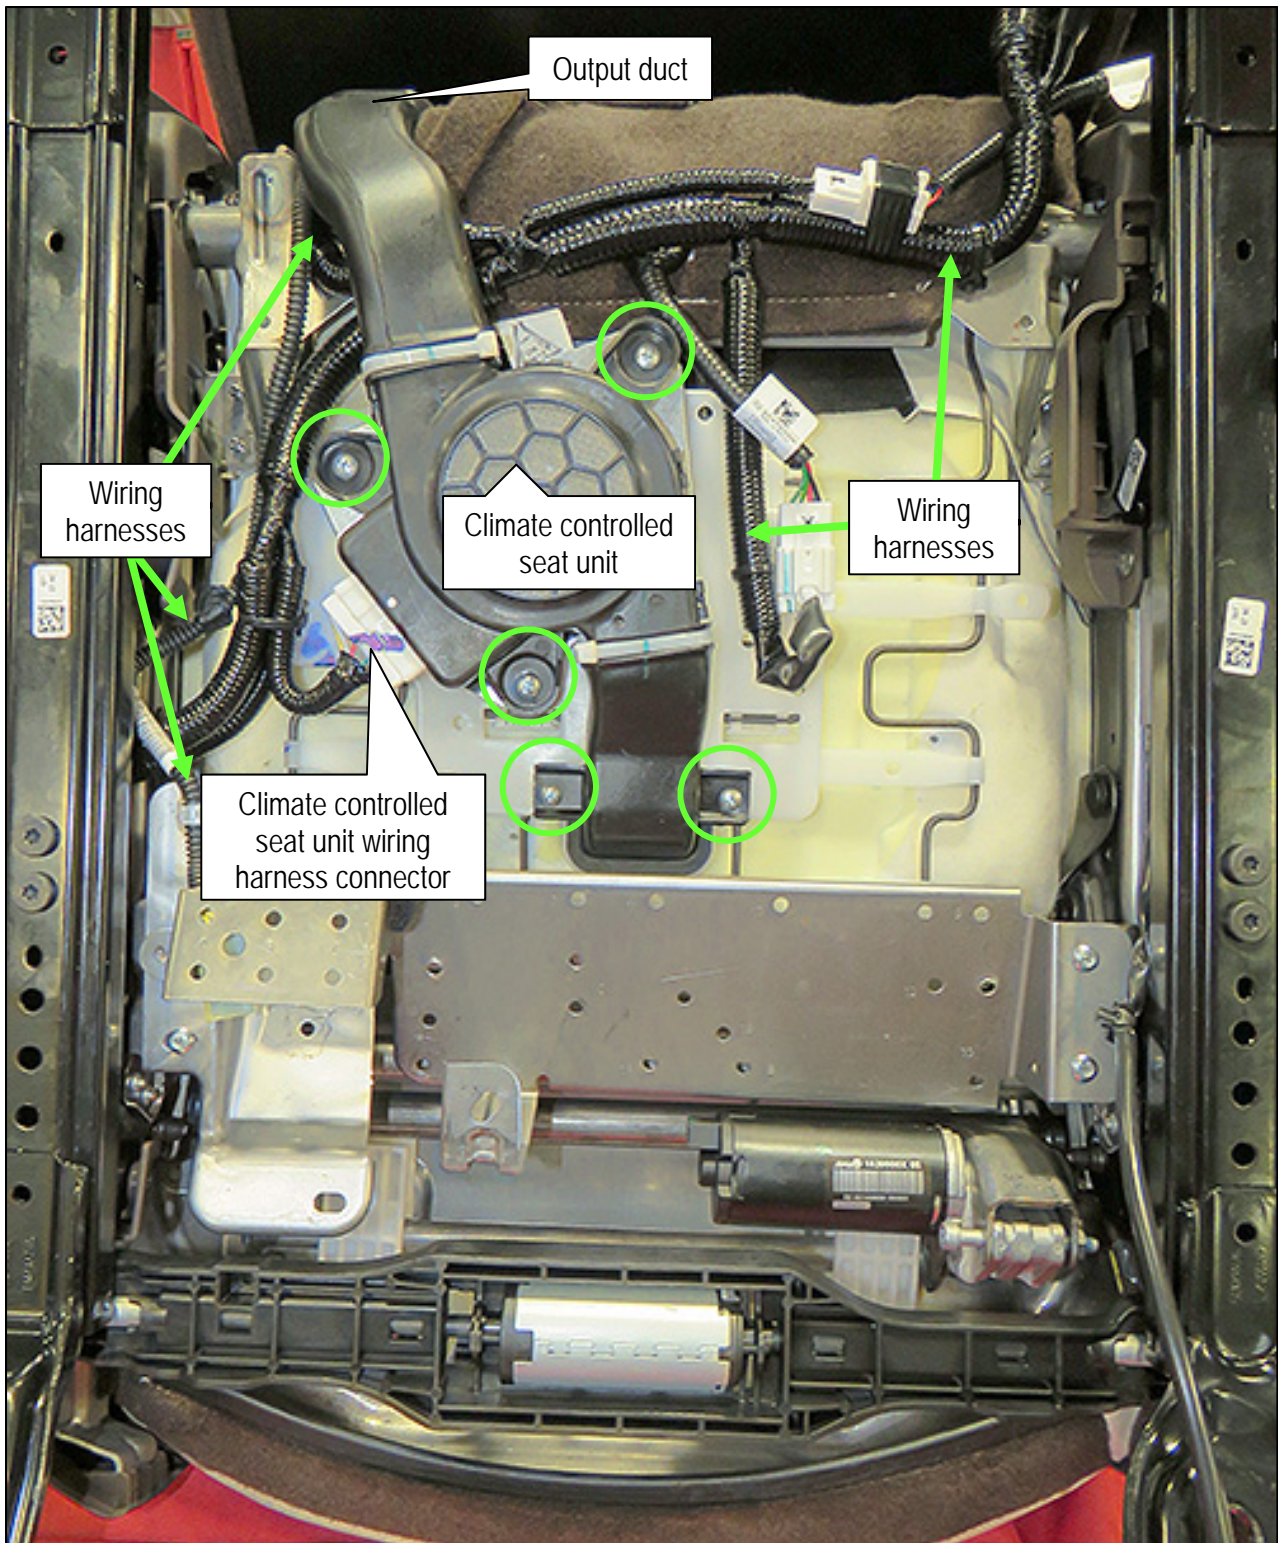
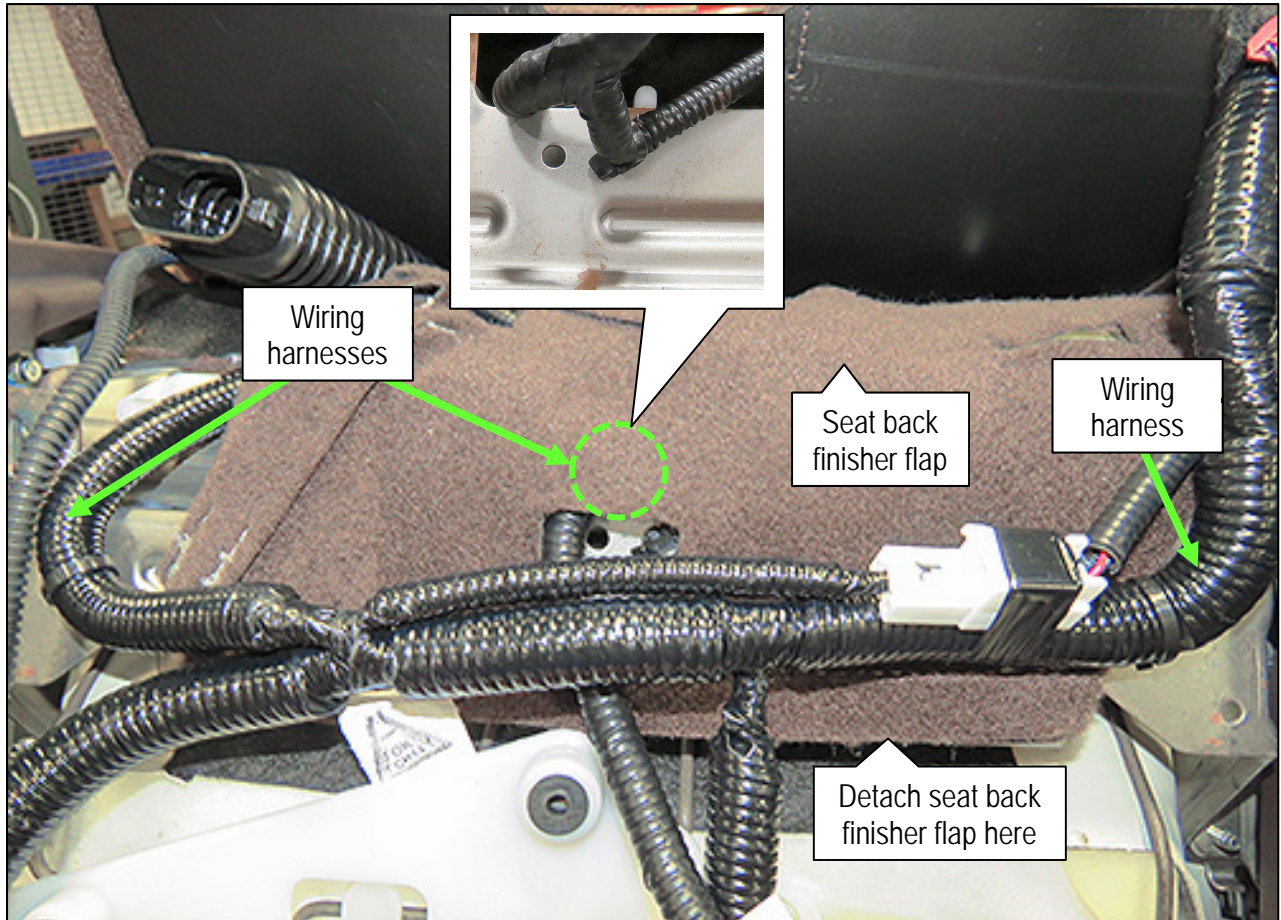

Figure 6
Figure 7
12. Remove the five (5) screws circled in Figure 6, and then remove the climate controlled seat unit from the seat frame.
13. Unclip any remaining harnesses shown in Figure 6 (below) and Figure 7 on page 7.